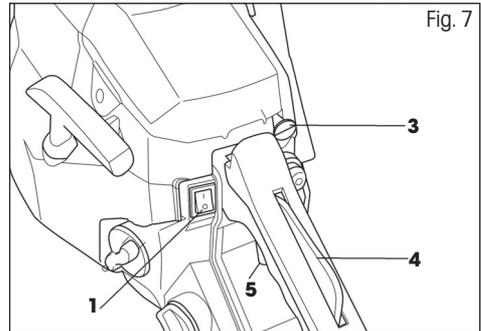

Fig. 7
1. Set the power switch to the "I" position. (see Fig. 7, point 1)
2. Pull out the choke lever (Fig. 7, point 3) to the "OFF" position (=air supply turned off, i.e. choke turned on).
4. At this point, push the choke lever (Fig.7, point 3) downwards to the "ON" position (=air supply turned on, i.e. choke turned off) and start the engine by repeatedly pulling on the starting cord.
1. Set the power switch (Fig. 7, point 1) to the "I" position.
- ☼ To increase speed, first use the palm of your hand to push down the throttle safety switch (Fig. 7, point 4) and then use your finger to pull on the throttle trigger (Fig. 7, point 5)
- ☼ Release the throttle trigger (Fig. 7, point 5) and switch the power switch (Fig. 7, point 1) to the "0" position.